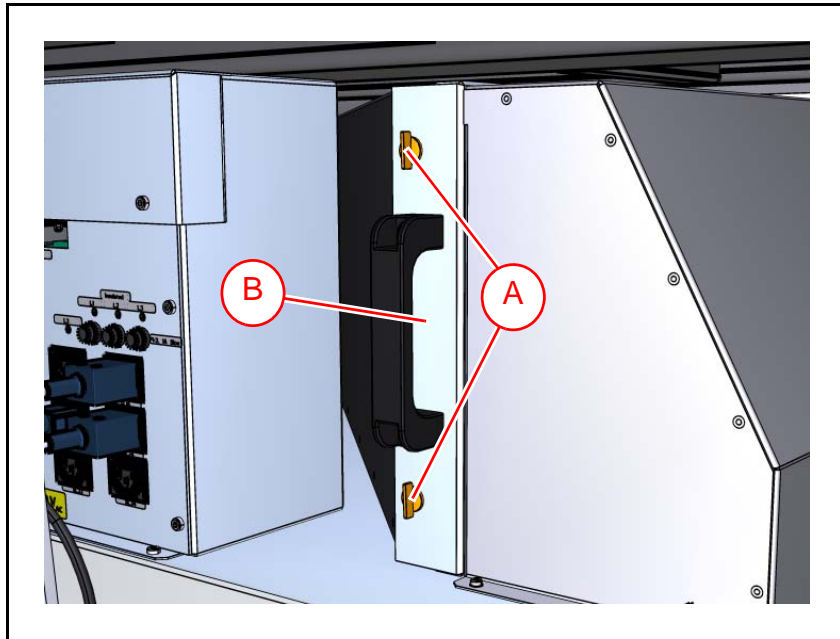

Figure 16-26. Fan assembly.
2. Turn the two locks ('A' in Figure 16-26) on the filter cassette one quarter of a turn to unlock the cassette with the filter mat ('B').